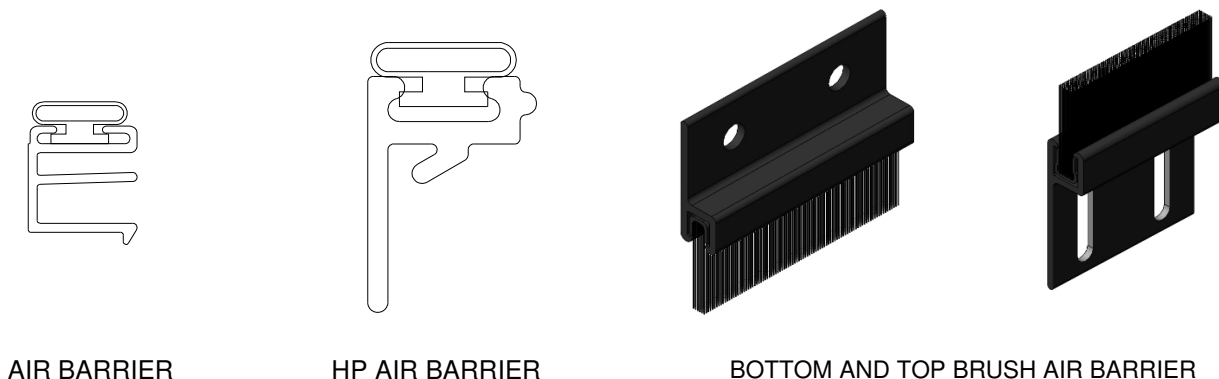

Figure 34:
After all panels have been adjusted plum and level and panels close and lock, open panels and install air barriers. Install Air Barrier (Figure 34) into the groove at the top and bottom of the exterior interlockers. Air Barriers bottom & top (Figure 34) are attached to all sliding interlockers and secured with (2) #6 x 3/8" long self-tapping screws.